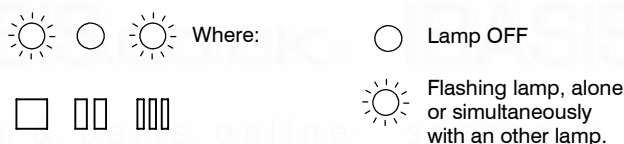

Fig. 45
- The boiler runs in c.h. mode and the lamps E give the indication as in Fig. 45.